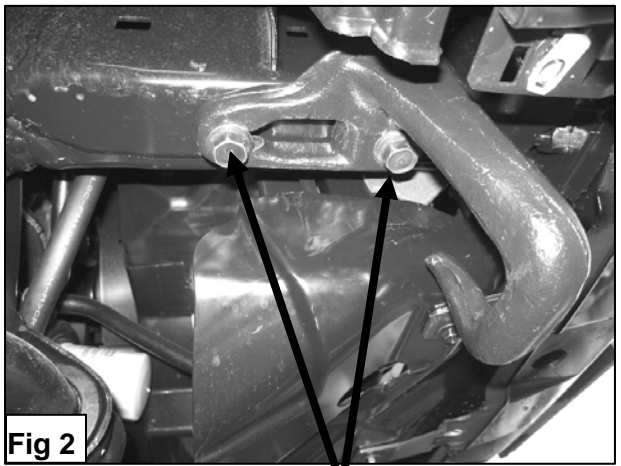

Fig 2
3. Remove the factory tow hook located on the passenger side (**Figure 2**). **NOTE:** You will not be re-installing tow hook.